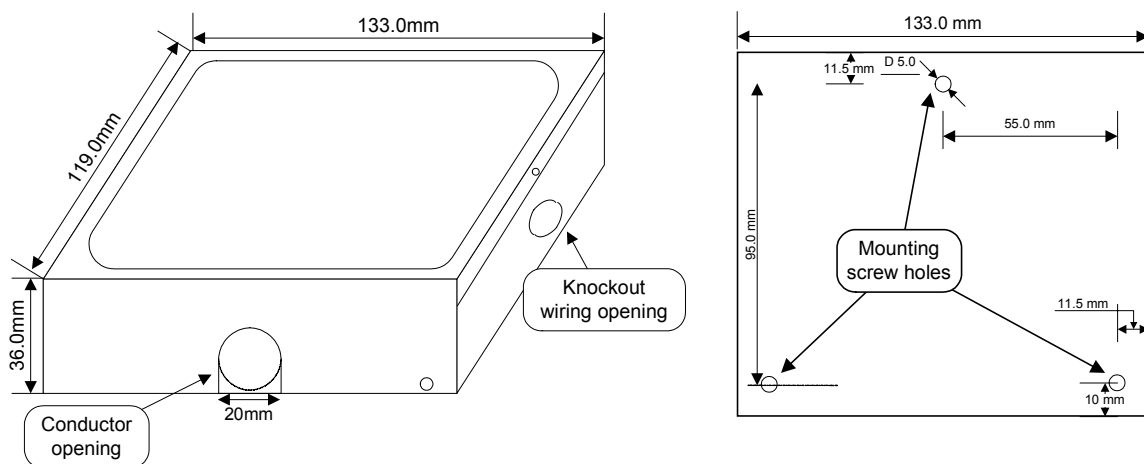

Figure 2: AIB-800 Box for Analog Addressable Input / Output Modules
1. Mark the holes on the mounting surface according to figure 2.